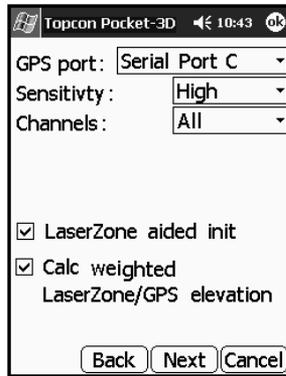

Figure 2-4. Select Lazer Zone Information
6. Select the following Lazer Zone parameters (Figure 2-4 on page 2-5):